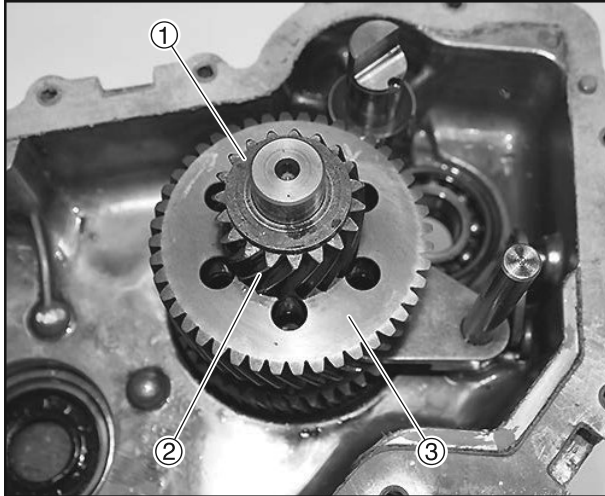

Figure 6-79
15. Remove the washer (**Figure 6-79, (1)**) and gear (**Figure 6-79, (2)**) and reverse gear (**Figure 6-79, (3)**) from the countershaft.